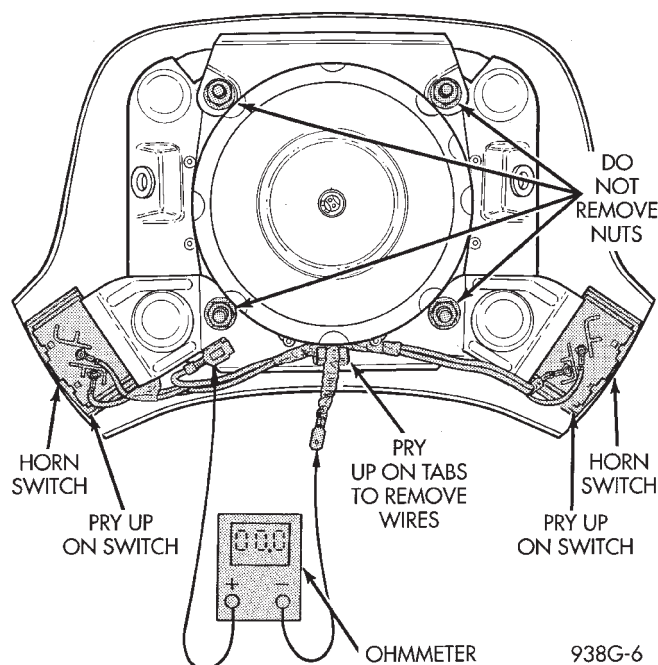

Fig. 3 Horn Switch
- (1) Using ohmmeter, connect one lead to ground wire and the other lead to the positive wire (Fig. 3).
- (2) Depress horn switch, should have continuity repeat for other switch. If no continuity replace switches.